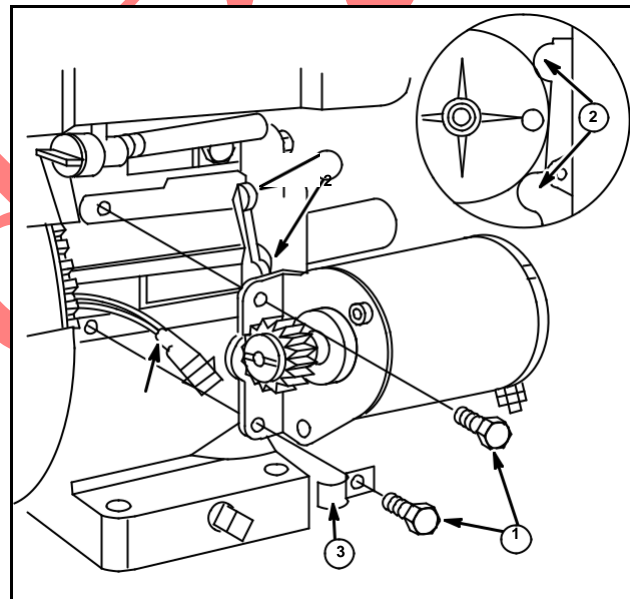

Fig. 75
10. Install starter on engine and start mounting screws (1). While holding starter against locating lugs on cylinder (2), Fig. 75, torque mounting screws to 140 in. lbs. (16 Nm). Wire clip (3)